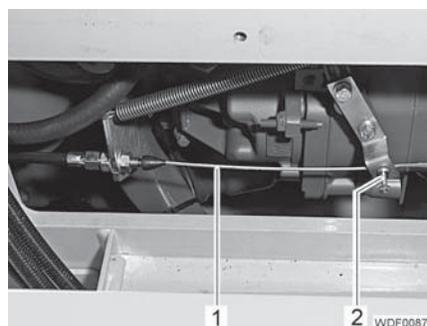

Fig. 42 Accelerator cable
- Fit the accelerator cable (Fig. 42,1), pull it taut and secure it with the screw (Fig. 42,2).